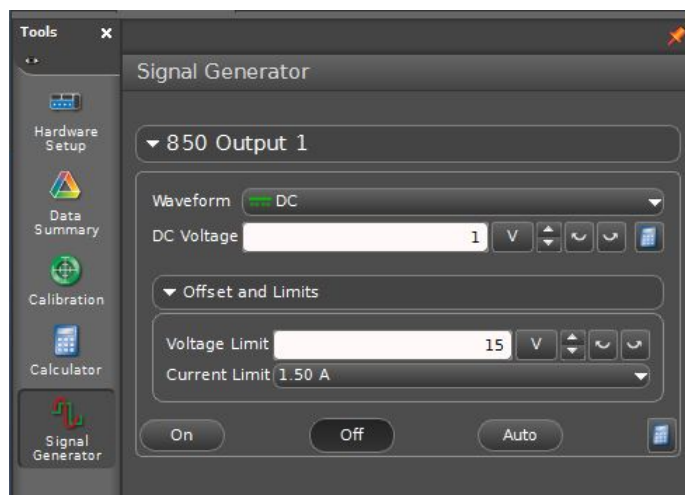

Figure 4: Signal Generator window
- 1 Open the appropriate Capstone file associated with this lab. The screen should contain a signal generator window similar to the one shown in Fig. 4. Banana plug cables should be connected to Output 1.